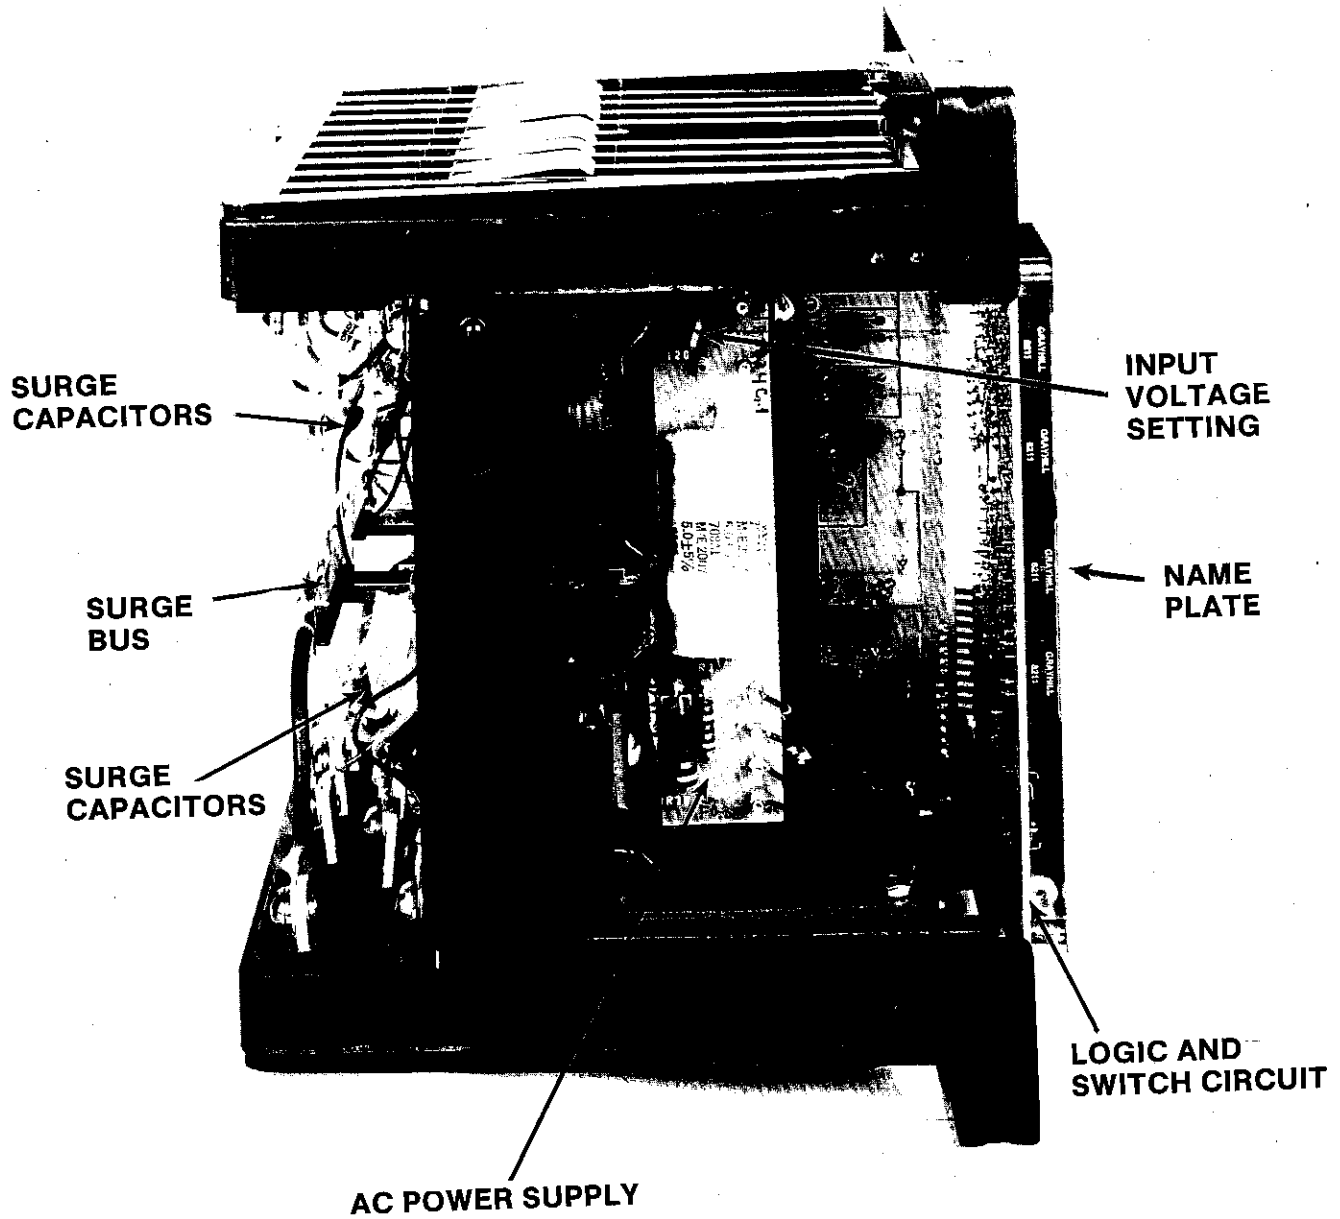

Fig. 5B (8043716-0) SLR Relay, Side View
- Fig. 5B SLR Relay, Side View